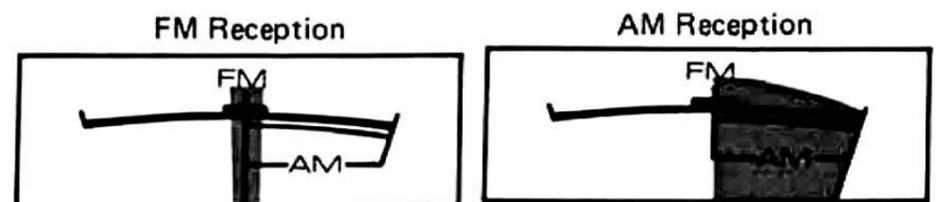

Fig. 10
3. Select the station by means of the TUNING knob. Best reception is obtained when the AM/FM TUNING meter needle is exactly in the center (see Fig. 10).
2. Turn the TUNING knob to select your station. Best reception is obtained when the AM/FM TUNING meter needle deflects to the extreme right (Fig. 10).